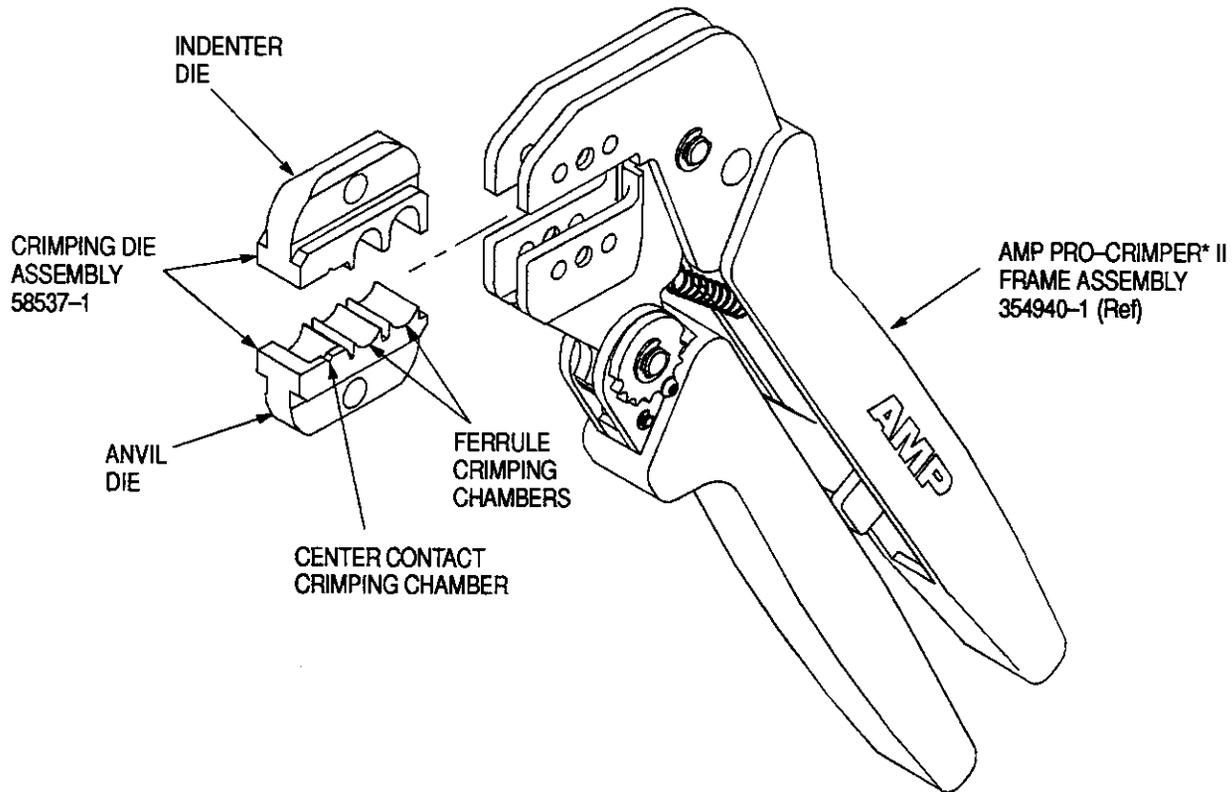

Figure 1
chambers. The two larger crimping chambers crimp the ferrule of the connector onto the coaxial cable, and the smaller crimping chamber crimps the center contact onto the center conductor of the coaxial cable. Each die is held in the tool jaws by a single screw. See Figure 1.
3. DIE INSTALLATION (Figure 1)